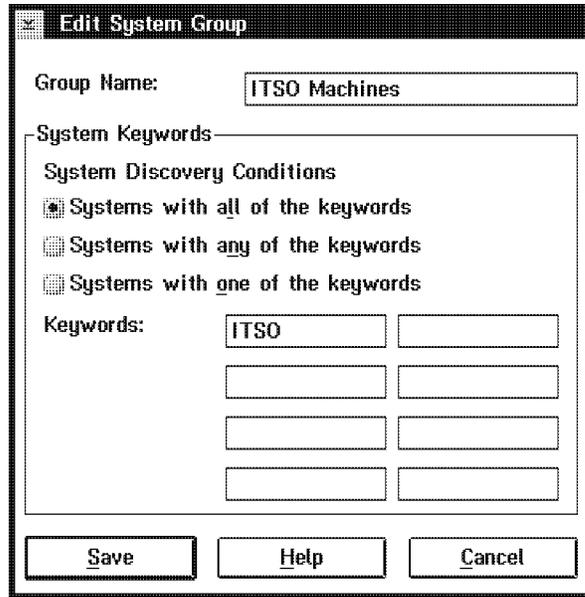

Figure 24. Adding a New Management Group
To create a new group, select the **Add Group** option from the Group pull-down menu. The Add System Group window, shown in Figure 24 on page 33, is displayed.
- Micro Channel Machines. Machines that have one keyword set as MCA (see Figure 24 on page 33).